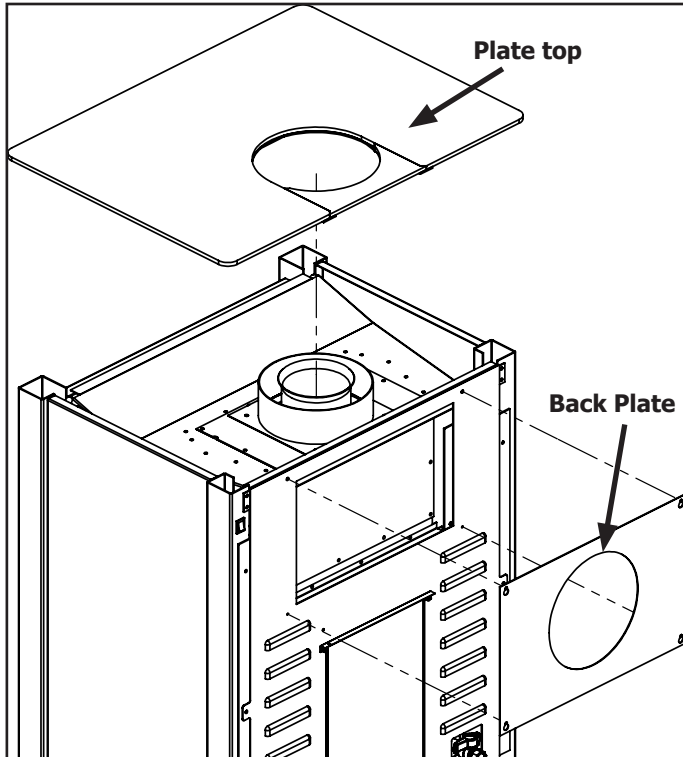
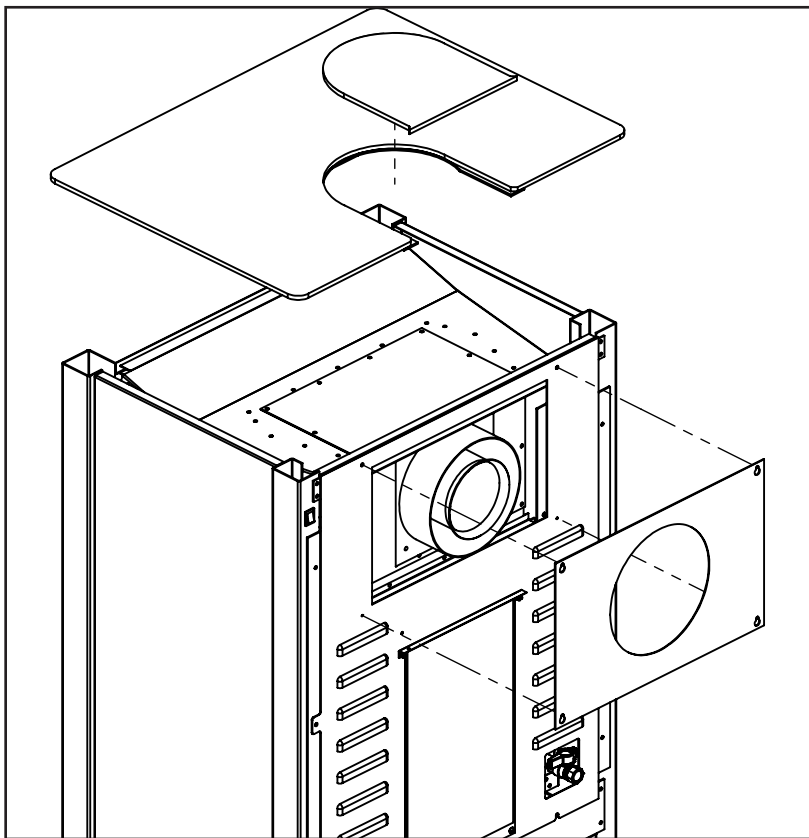

Figure 23. Vent Conversion - Step 1
Figure 26. Vent Conversion - Step 4
**Step 1:** Using a T20 screwdriver loosen the four screws retaining the back plate and unhook it. Then remove the plate top by simply lifting up as shown in Figure 23.
**Step 4:** Re-install the plate top by aligning the bolt heads on the bottom side with the rear mounts (see Figure 23). Re-install the back plate and tighten the four retaining screws. Finally, install the plate vent cover supplied with the S20I/ S20ID as shown in Figure 26.